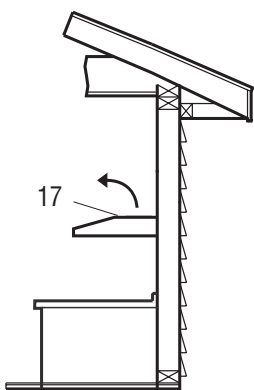

Fig. 8
- For interior venting system (air does not exhaust to outdoors) (Fig 8):
- In interior vented installations, air is recirculated through a charcoal filter (included) and exhausted through the top of the range hood (17). See the installation section for more details.